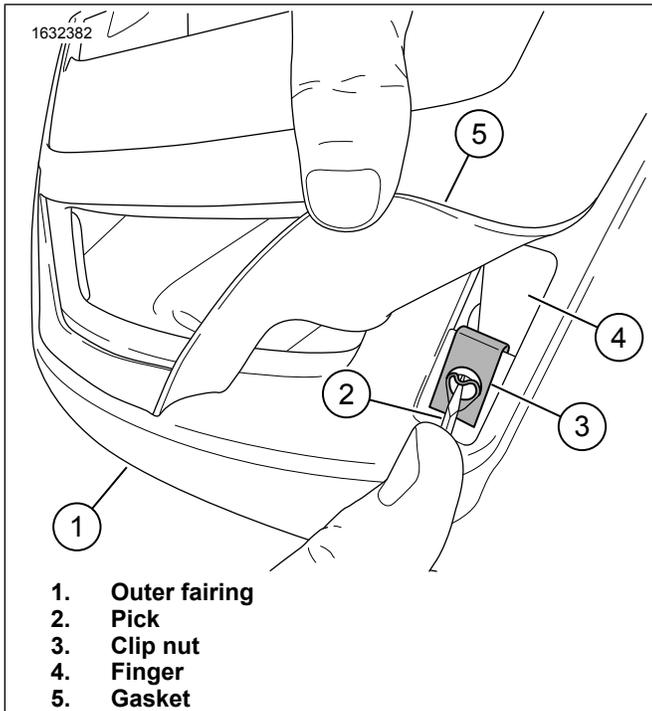

Figure 5. Outer Fairing Clip Nut Removal
- a. See Figure 5. Lift gasket (5).
- b. Lift on front of clip nut (3) using a pick (2).
- c. Use finger (4) and pull on backside of clip nut (3).